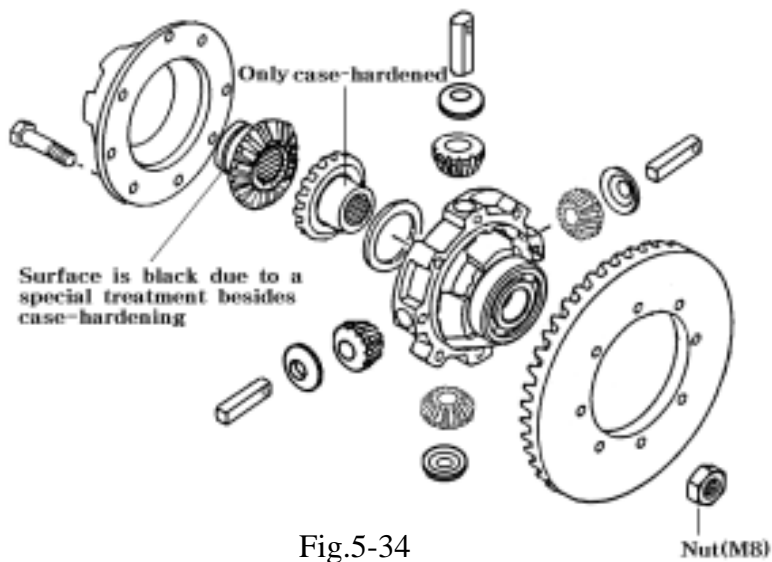

Fig.5-34
- As shown in Fig5-34, there are two kinds of differential side gears. Although they are case hardened, the one installed on the side of the diff-lock is treated further and colored black. Take care not to mix them when assembling.